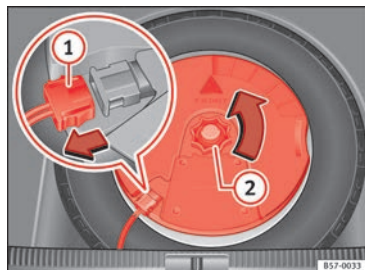

Fig. 247 In the luggage compartment: remove the subwoofer.
- Disconnect the *subwoofer* »» Fig. 247 ① speaker cable.
- Turn the securing wheel in an anti-clockwise direction »» Fig. 247 ②.